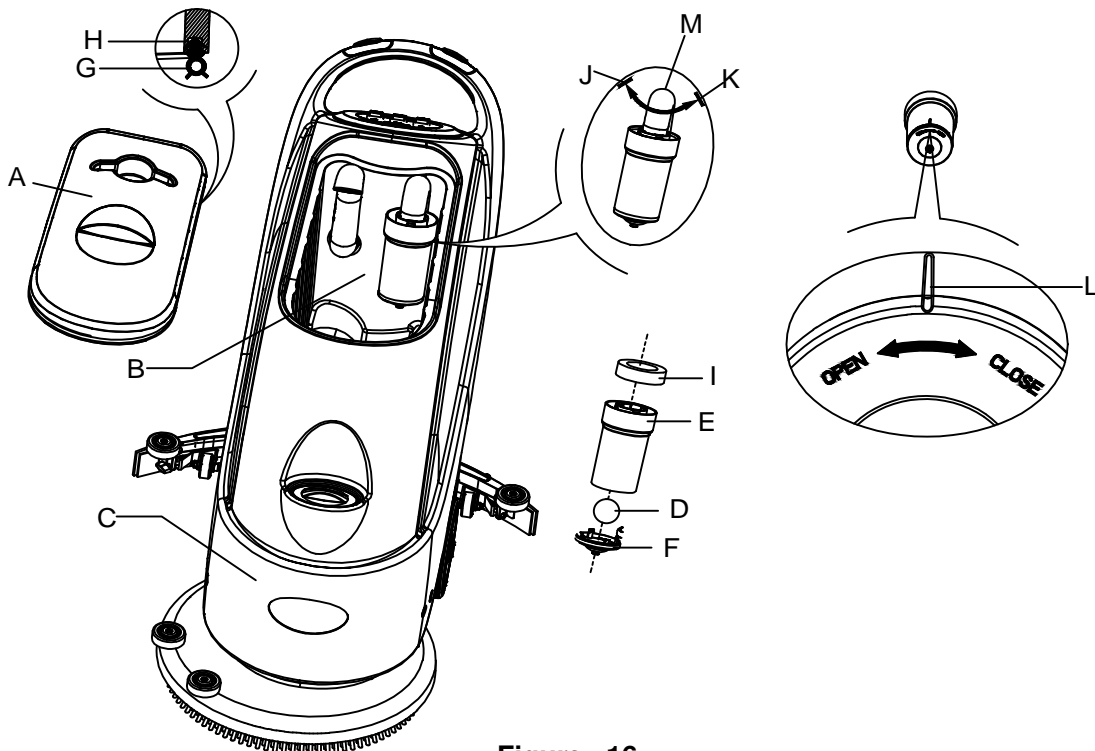

Figure 16
2. Press the power switch (41) to the position "O" to turn off the machine.
3. Open recovery tank lid (A, Figure 16), and remove the float device (36) from inside the tank.
4. Use clean water to rinse the recovery tank lid (A), the tank (B and C), and the float filter support frame (E). Drain all the water from the water tank.
5. If necessary, following the symbols "Open" and "Close" as shown in Figure 16, open the bottom lid (F) of the float filter and clean the float (D), float filter support frame (E), and the filter sponge (I). After cleaning, re-attach the float onto the support frame (E), and then align the mark groove (L) of the bottom lid (F) of the float filter with the mark groove (L) of the float filter support frame (E). Turn the bottom lid (F) of the float filter tight, and re-attach the filter sponge (I) onto the support frame (E), and then onto the vacuum tube (M).
6. Inspect the seal / gasket (G) of the recovery tank lid.
If necessary, the recovery tank seal / gasket (G) may be taken out from the groove (H) and changed. When installing the new seal / gasket as shown in Figure 16 below, install the connector to the middle section of the rear part.
7. Check if the receiving surface of the sealing strip (G) is intact and seals adequately.
8. Close recovery tank lid (A).